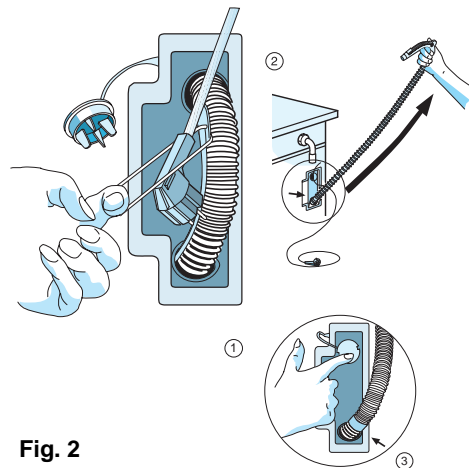

Fig. 2
b) Appliance internal drain hose, Figure 2
2. Pull out the hose upwards until the mark on the hose is visible (see Figure 2, arrow in Fig. 3).
1. Fit the drain hose either to the siphon or hook it over the edge of a sink or bath tub with the "U" bend (Fig. 2). Small hand basins are not suitable. The edge of the tub must be no higher than 125 cm above the floor.